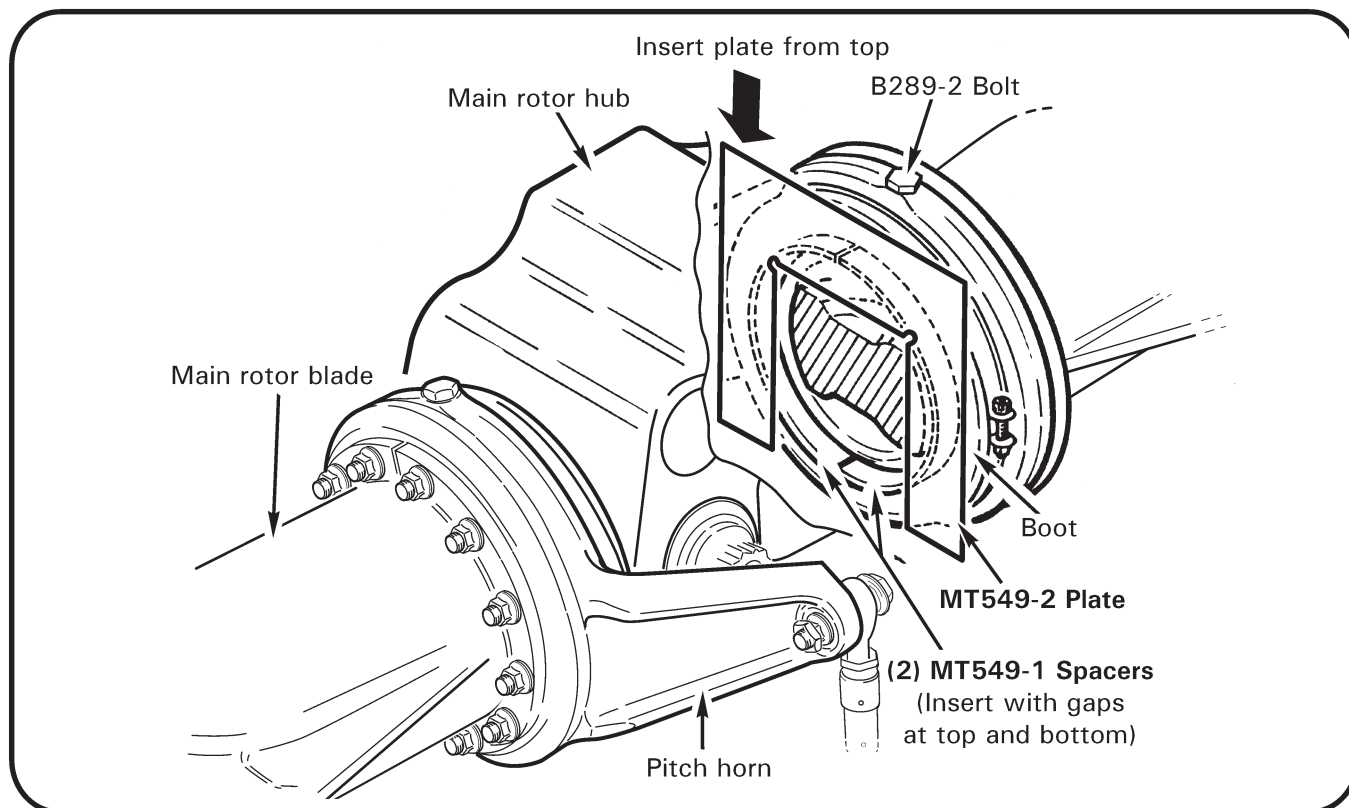

FIGURE 62-3 ADJUSTING BOOT CLEARANCE
14. Refer to Figure 62-3. Insert (2) MT549-1 spacers between hub and boot with gaps at top and bottom. Spacers should fit in recess of boot. Hold spacers in place against boot and insert MT549-2 plate from top between hub and spacers. Push plate down until it contacts spindle.